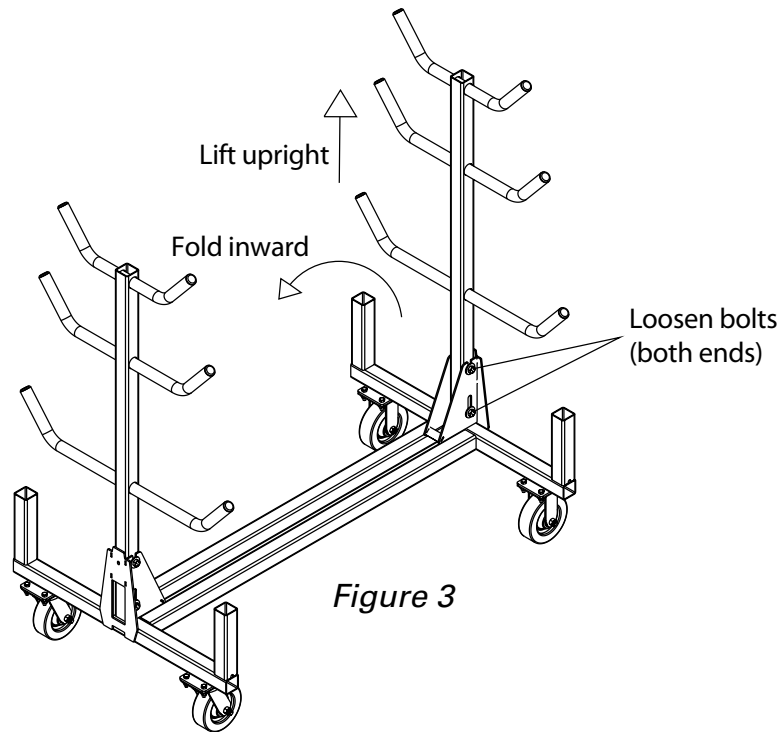

Figure 3
2. Lift the upright high enough to clear the slot at the top of the upright support and fold inward (See Dis-Assembly Figure 3).